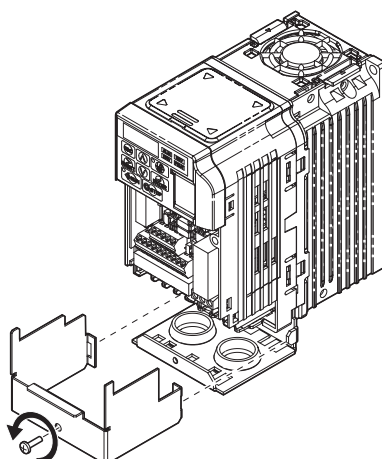

Figure 8 Remove the NEMA Type 1 Terminal Cover (CIMR-V□BA0001F to BA0003F, 2A0001F to 2A0006F)
6. For IP20/NEMA Type 1 enclosure models CIMR-V□□□□□□F, loosen the screw on the front of the NEMA Type 1 terminal cover and remove it from the drive. Refer to Figure 8 for details.